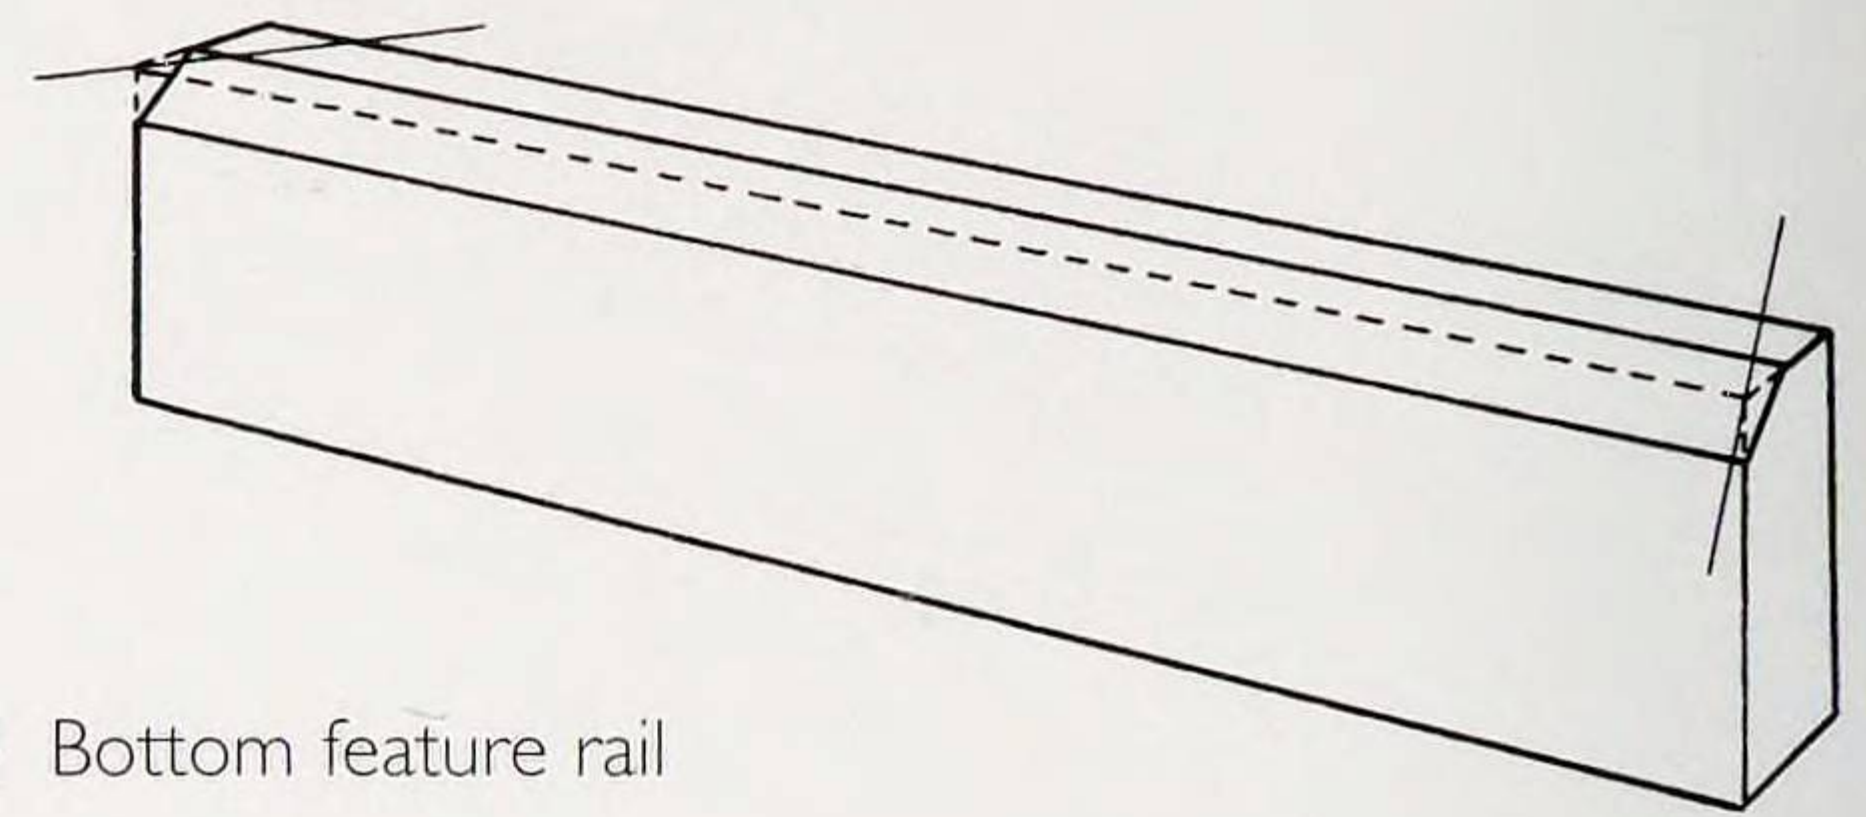

Fig. 4 Bottom feature rail
6. Apply the bottom feature first. This is a simple cross-rail which can be slightly shaped on the bottom (Fig. 4), but be careful not to overdo the shaping. The ends should be mitred from the rear so that after the sharp edge is removed the shadow line against the wall is similar to that of the frame. Fix it from the inside of the front frame with screws and glue.